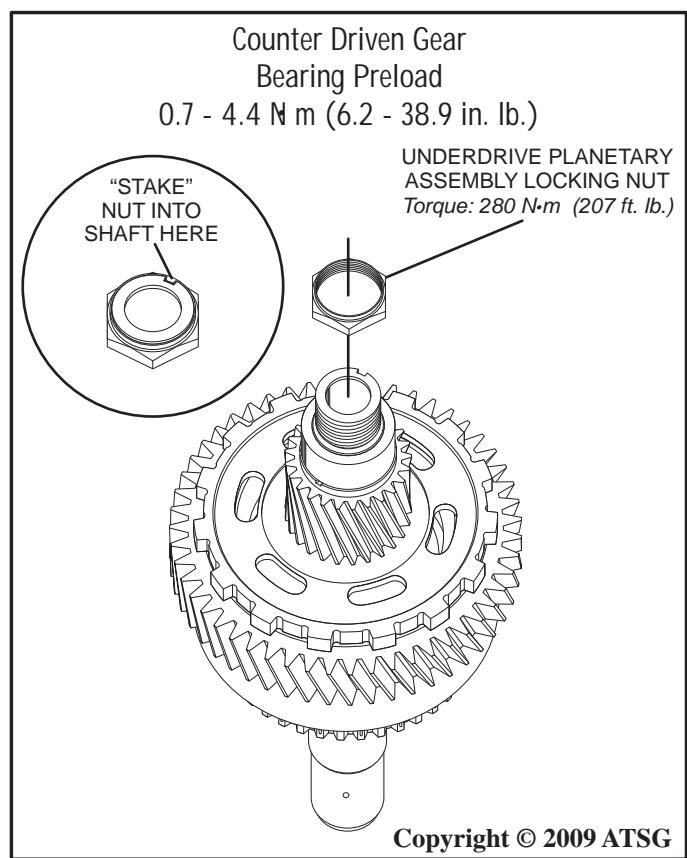

Figure 78
15. Set the underdrive planetary assembly into a soft jawed vice or similar holding device to avoid damage to the differential drive pinion gear then install a new locking nut using SST 09564-16020 or a suitable socket and torque the locking nut to 280 N m (207 ft. lb.) as shown in Figure 78.
17. Once proper preload has been determined and correctly set, "stake" the nut into the shaft as shown in Figure 78.